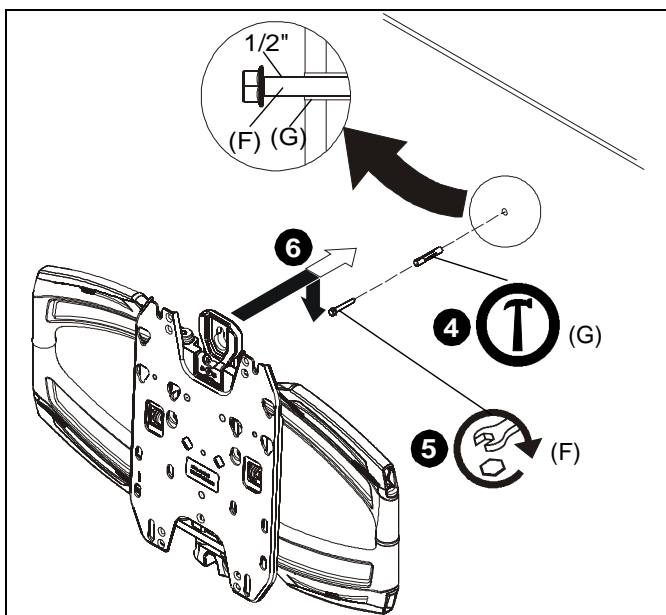

Figure 17
4. Install one concrete anchor (G) into drilled hole. (See Figure 17)
5. Install one 5/16- 2 1/2" flange head lag screw (F) into concrete anchor, leaving screw hanging out 1/2" from the wall. (See Figure 17)
6. Hang main assembly (M) onto lag screw (F) by latching key-shaped hole over top of screw. (See Figure 17)